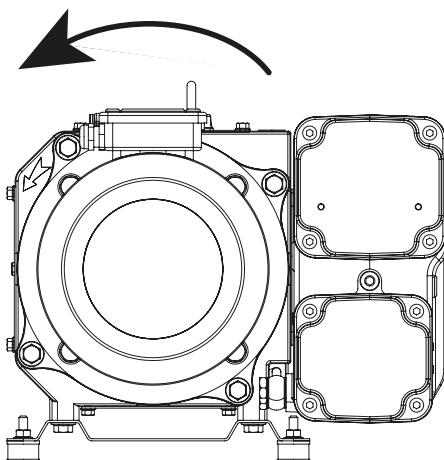

Fig.7
- Check direction of rotation by starting the pump for a short time (2-3 seconds). The correct direction is shown by the arrow on the pump (figure 7). In case of wrong rotation, it is necessary to change the motor rotation by exchanging position of two of the three connections in the motor terminal box.